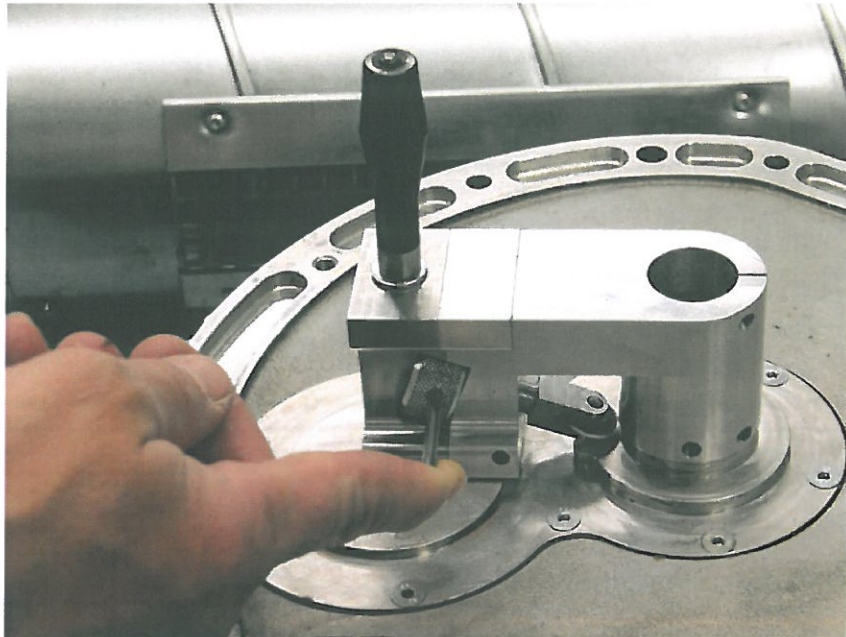

Fig. 5 Turn the adjustment wheel to feed the cutting tool
10. Put the cylinder pin in the drill hole of the adjustment wheel. See Fig. 5.
11. Turn the adjustment wheel until the cylinder pin touches the housing of the tool. See Fig. 5.
- ◆ **Note:** Use the cylinder pin to turn the adjustment wheel. See Fig. 5.